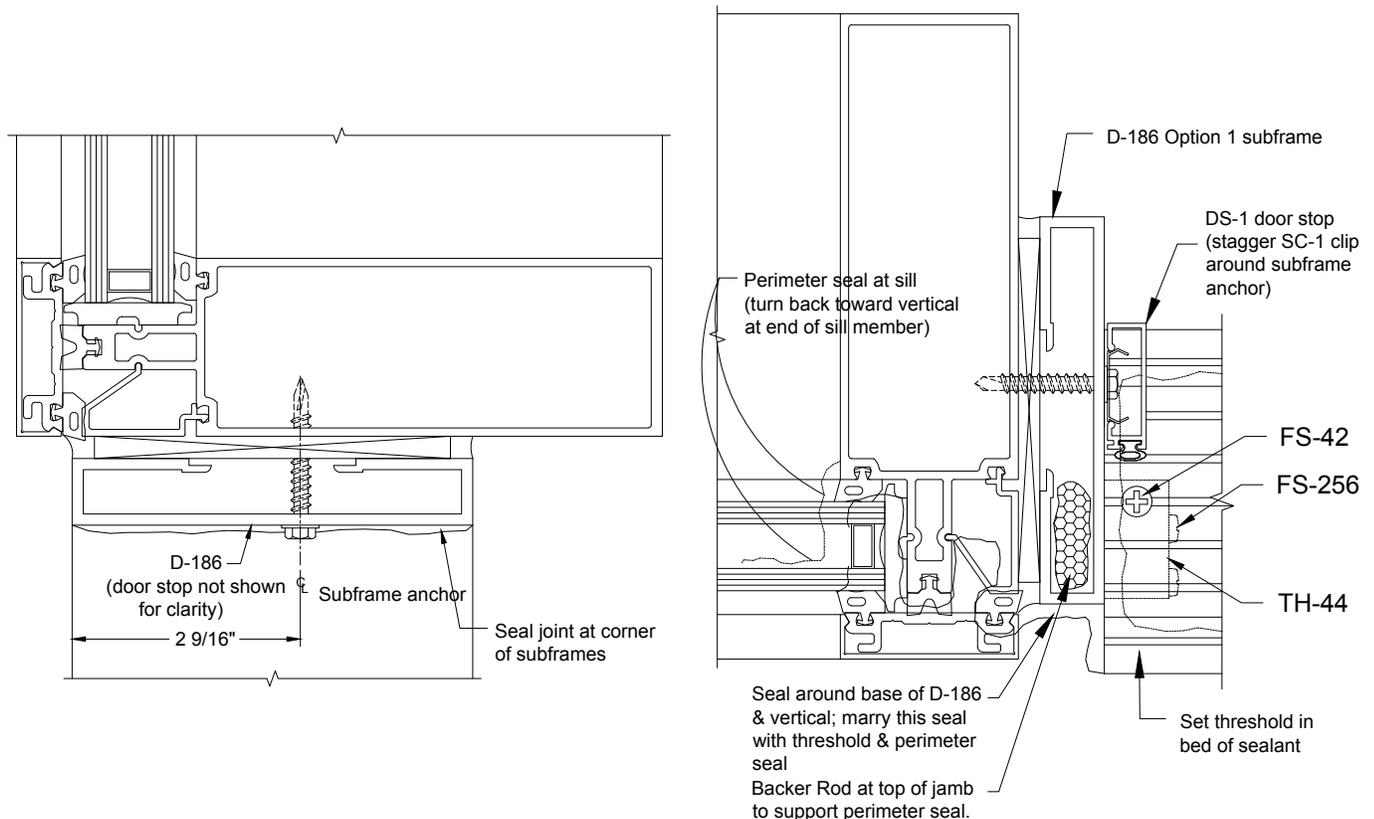
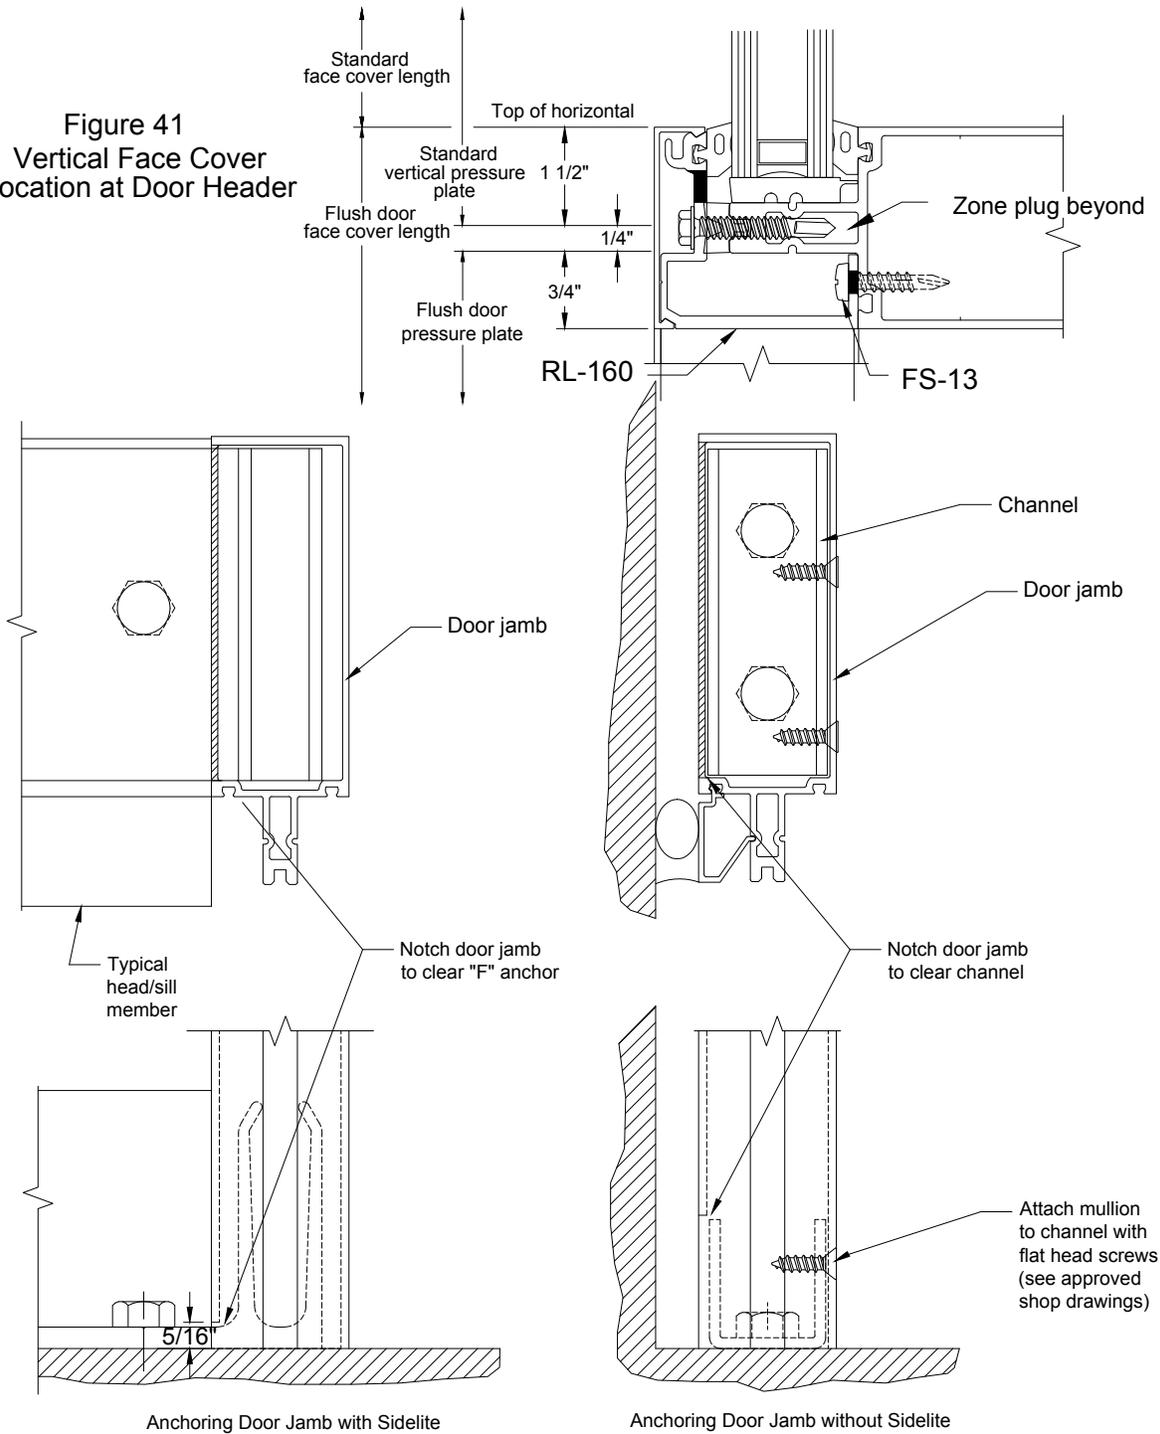

Figure 40
Figure 45
C.1 Curtain wall verticals and door subframes run through to finished floor. Bed adjacent curtain wall verticals in sealant and anchor to floor per approved shop drawings. See **FIGURE 45, page 41** for suggestions on anchoring door jamb mullion.
C.2.1 Attach TH-44 threshold clip to bottom of each jamb subframe with two (2) FS-256 #8 x 1 1/2" Phillips Round Head screws.
C.2.3 Bed subframes in sealant. Anchor to curtain wall framing members with FS-316 1/4"-20 x 2" HWH Drill Flex at 18" O.C. Cap seal all fasteners and seal joint between jamb and header subframes. Seal tops of the jamb subframes. See **FIGURE 40**
C.2.4 Bed threshold in sealant, attaching to TH-44 clips with FS-42 #12 x 1/2" Phillips Flat Head screws. Marry threshold seal with subframe and main system seal. See **FIGURE 40**